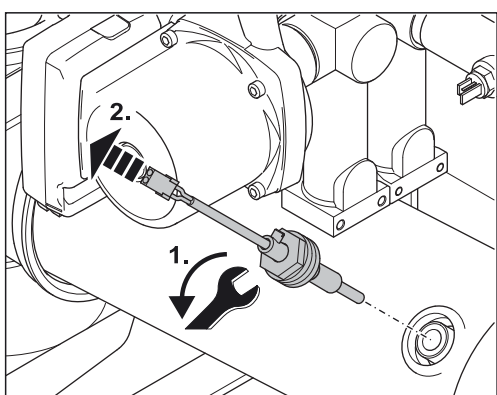

Fig. 6-13 Unscrew the flue gas temperature sensor
2. Unscrew the sensor sleeve from the flue gas duct by using an SW 24 wrench (fig. 6-13). The flue gas temperature sensor can only be completely changed with the sleeve.